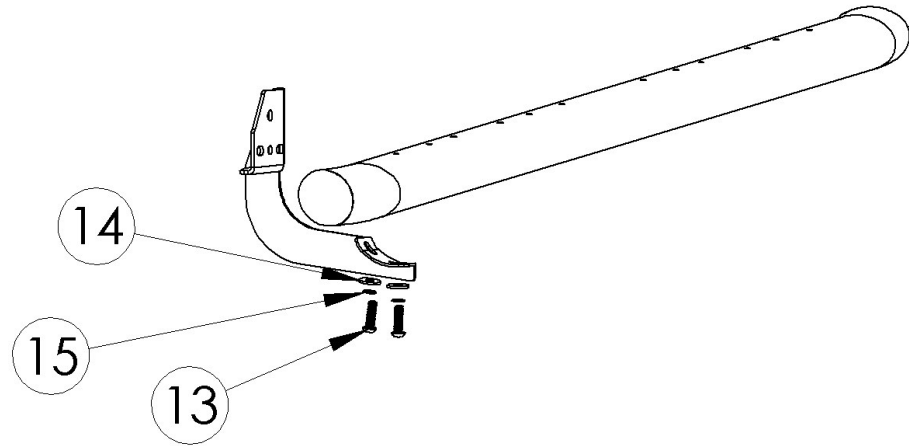

Fig. 7
5. Attach the step bars to the previously installed brackets using (12) M10 button head bolts (stainless steel), (12) M10 toothed lock washers (stainless steel), and (12) M10 flat washers (stainless steel). Do not fully tighten at this time (**FIG 7**).